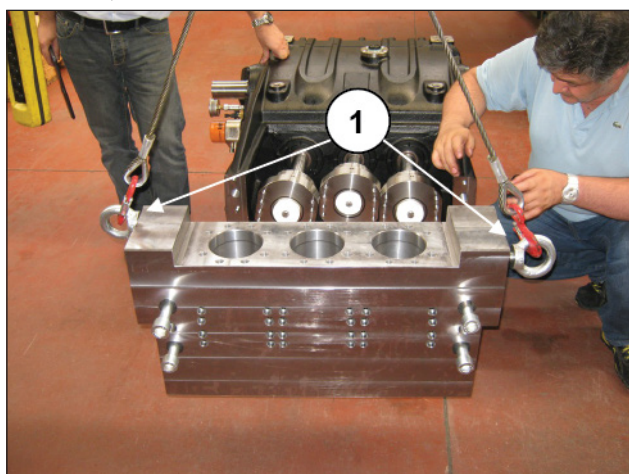
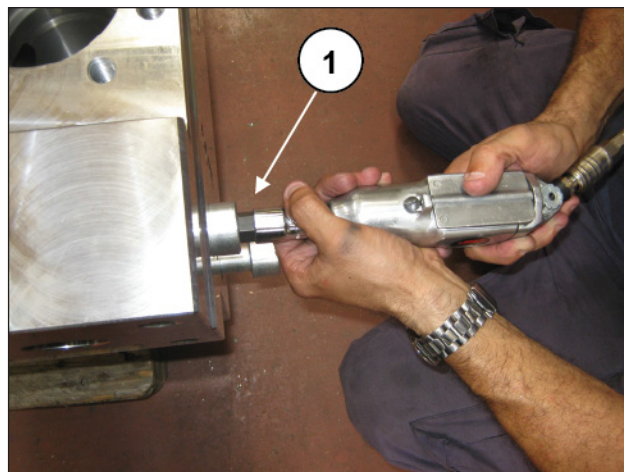

Fig. 167
Fig. 168
Fit two M24 eyebolts in the outlet flange fixing holes (pos. ①, Fig. 167) and then undo the 4 M24 screws fixing the manifold to the front casing (pos. ①, Fig. 168).